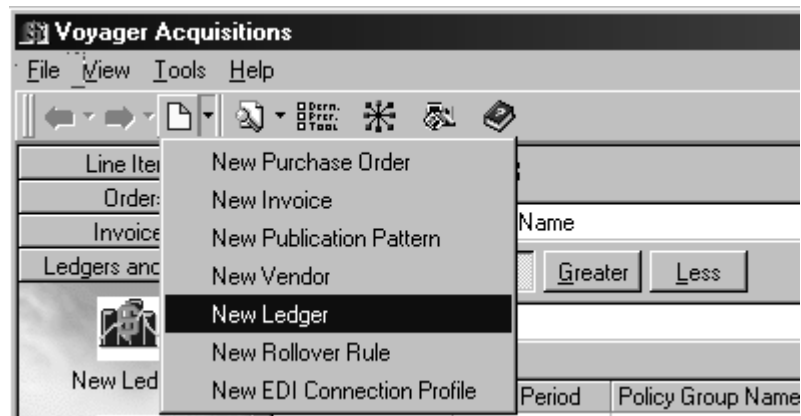

Figure 5-14. New Item button selected on the toolbar - list displayed
- Or click the down arrow beside the **New Item** button on the toolbar and then select **New Ledger** from the list (see Figure 5-14).